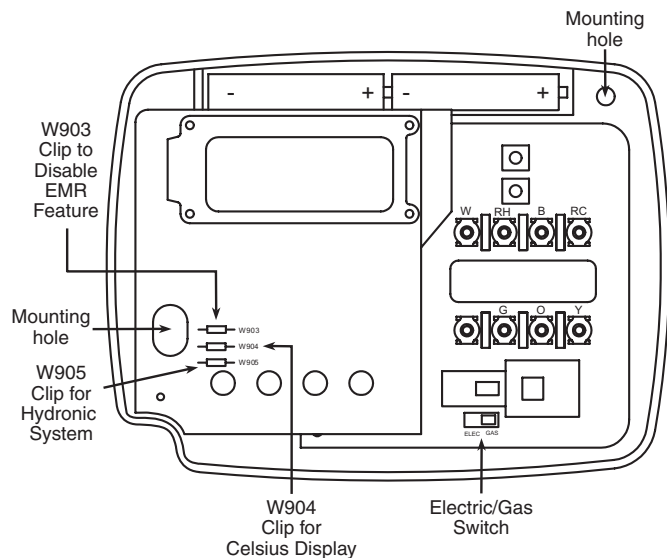

Figure 1. Thermostat base
This thermostat is configured from the factory to operate a heat/cool, fossil fuel (gas, oil, etc.), forced air system. It is configured correctly for any system that DOES NOT require the thermostat to energize the fan on a call for heat. If your system is an electric or heat-pump system that REQUIRES the thermostat to turn on the fan on a call for heat, locate the **GAS/ELECTRIC** switch (see fig. 1) and switch it to the **ELECTRIC** position. This will allow the thermostat to energize the fan immediately on a call for heat. If you are unsure if the heating/cooling system requires the thermostat to control the fan, contact a qualified heating and air conditioning service person.
To disable EMR, clip jumper W903 (see Fig. 1).
5. Fasten base loosely to wall, as shown in fig. 1, using two mounting screws. Adjust until level, and then tighten screws. (Leveling is for appearance only and will not affect thermostat operation.) If you are using existing mounting holes, or if holes drilled are too large and do not allow you to tighten base snugly, use plastic screw anchors to secure subbase.
This thermostat requires 2 "AAA" alkaline batteries to operate. If "**LO BATTERY**" is displayed, the batteries are low and should be replaced. For best results, replace batteries once a year with new premium brand alkaline batteries such as Duracell® or Energizer®. To replace the batteries, install the batteries along the top of the base (see fig. 1). The batteries must be installed with the positive (+) ends to the right.